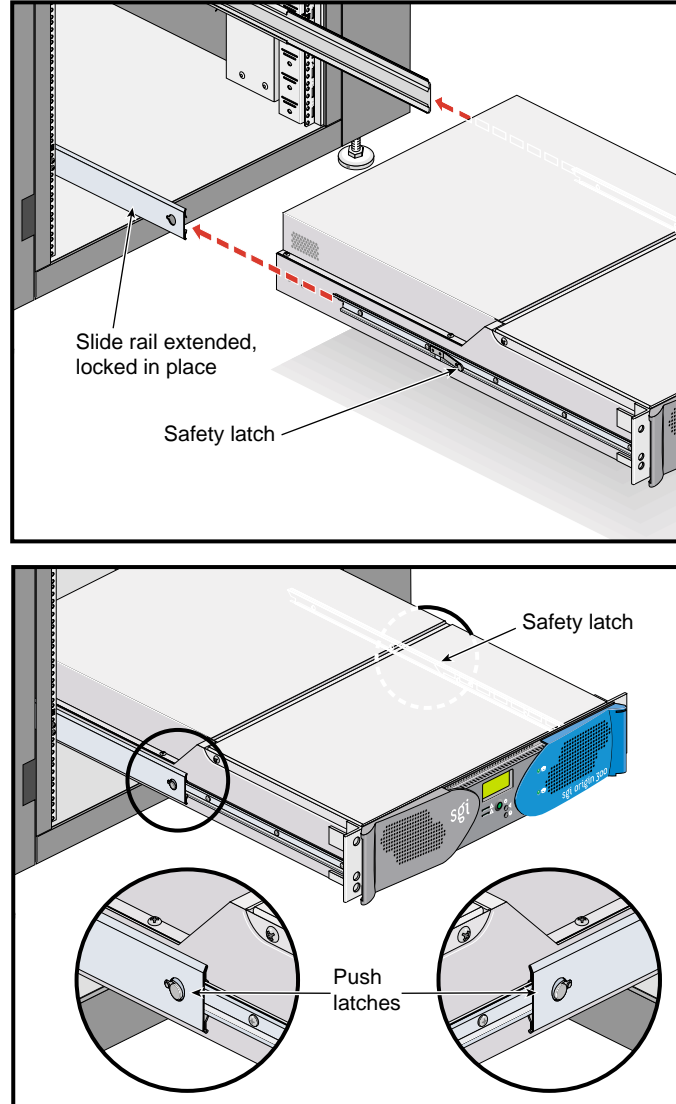

Figure 2-9 Pressing the Safety Latches
4. Press the safety latches on both sides of the server to fully seat the chassis rails into the slide rails (refer to Figure 2-9).